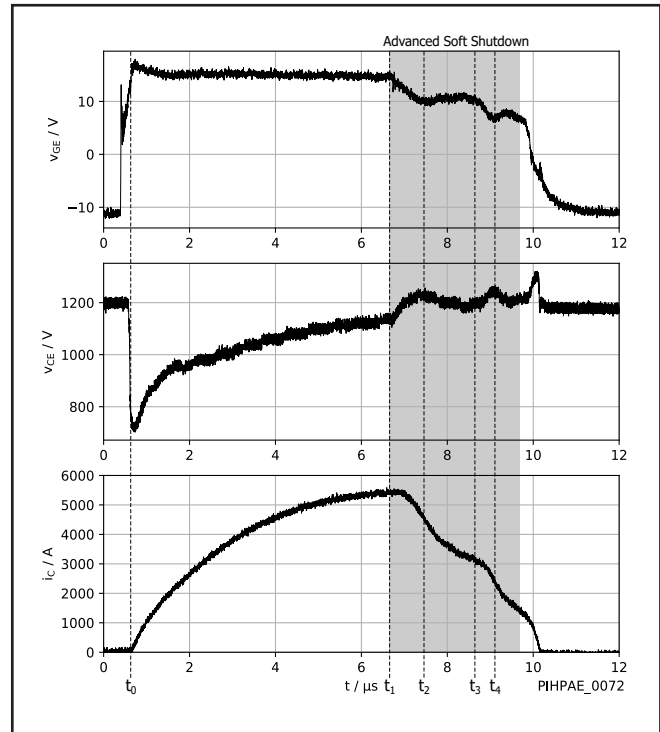

Figure 3. Example waveform of Advanced Soft Shut Down (ASSD)
In the event of a short-circuit condition, the gate voltage is increased due to the high dv_{CE}/dt between the collector and emitter terminals of the driven power semiconductor. This dv_{CE}/dt drives a current through the Miller-capacitance (capacitance between the gate and collector) and charges the gate capacitance, which eventually leads to a gate-emitter voltage larger than the nominal gate-emitter turn-on voltage. In consequence, the short-circuit current is increased due to the transconductance of the power semiconductor. To ensure that the gate-emitter voltage stays close to the nominal turn-on voltage each MAG features a gate-clamping circuitry. The gate clamping provides a voltage similar to V_{VISO} to the gate, i.e. 15 V. As the effective short-circuit current is a function of the gate-emitter voltage the short-circuit current is limited. This is shown in Figure 3 in the time period from 0.5us to 6.2us, where the short-circuit current asymptotically increases toward a flat plateau. As a consequence, the energy dissipated in the power semiconductor during the short-circuit event is reduced, leading to a junction temperature within the short-circuit safe operating area (SCSOA) limits and enabling a safe turn-off of the device.
- In the first step, the gate-emitter voltage is decreased to a defined level which is controlled by the closed-loop feedback (Figure 3, from t_1 to t_2).
- The defined level of the gate-emitter voltage is kept steady to ramp down the collector current smoothly, i.e. with lower di/dt , until the gate charge profile of the power semiconductor has reached the end of the Miller plateau. The end of the Miller plateau is detected by evaluating the gate current (Figure 3, from t_2 to t_3).
- The gate-emitter voltage is then reduced to its end value, following a given reference value (Figure 3, from t_3 to t_4).